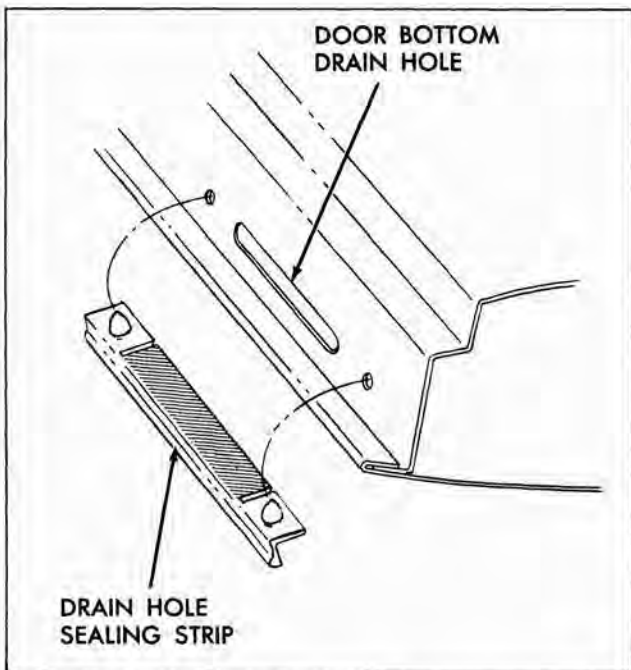

Fig. 3-6 Drain Hole Sealing Strip
2. To install, insert tip of a blunt tool (such as a blunt ice pick) into carrot and push carrot into retaining holes (Fig. 3-6).